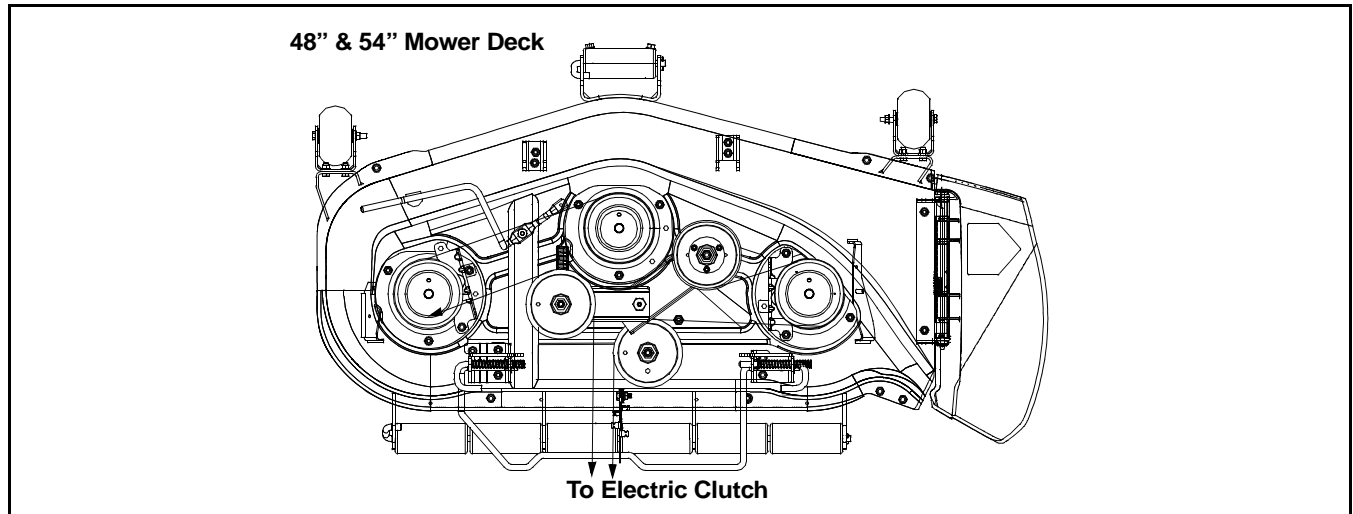

Figure 27
3. Install and route the new belt according to the routing diagram. (See Figure 27)